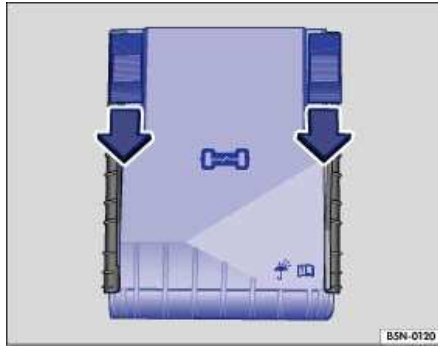

Fig. 41 Fuse box cover in the engine compartment
- Move the lock tabs (arrows) to release the fuse box cover (⇒ Fig. 41) and remove the cover.